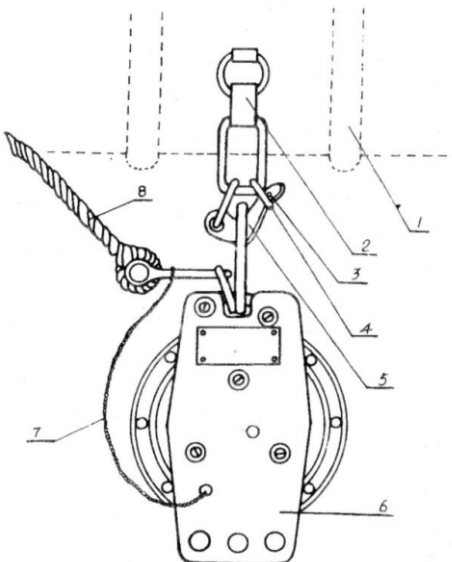

Fig 2 - Loose Slip Hook
1. Pulling out the pin first and pushing out the slip-ring upward. The slip-hook and the lashing will be loosed at once (Fig. 2).